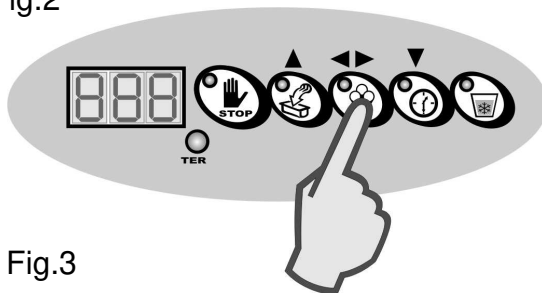

Fig.3
7. If, instead, you wish to change the selected step, press the "CONFIRM" key (fig. 3) to view the current value and subsequently press the "UP" or "DOWN" keys to increase or decrease the value. Subsequently, press the "CONFIRM" key to confirm the data.